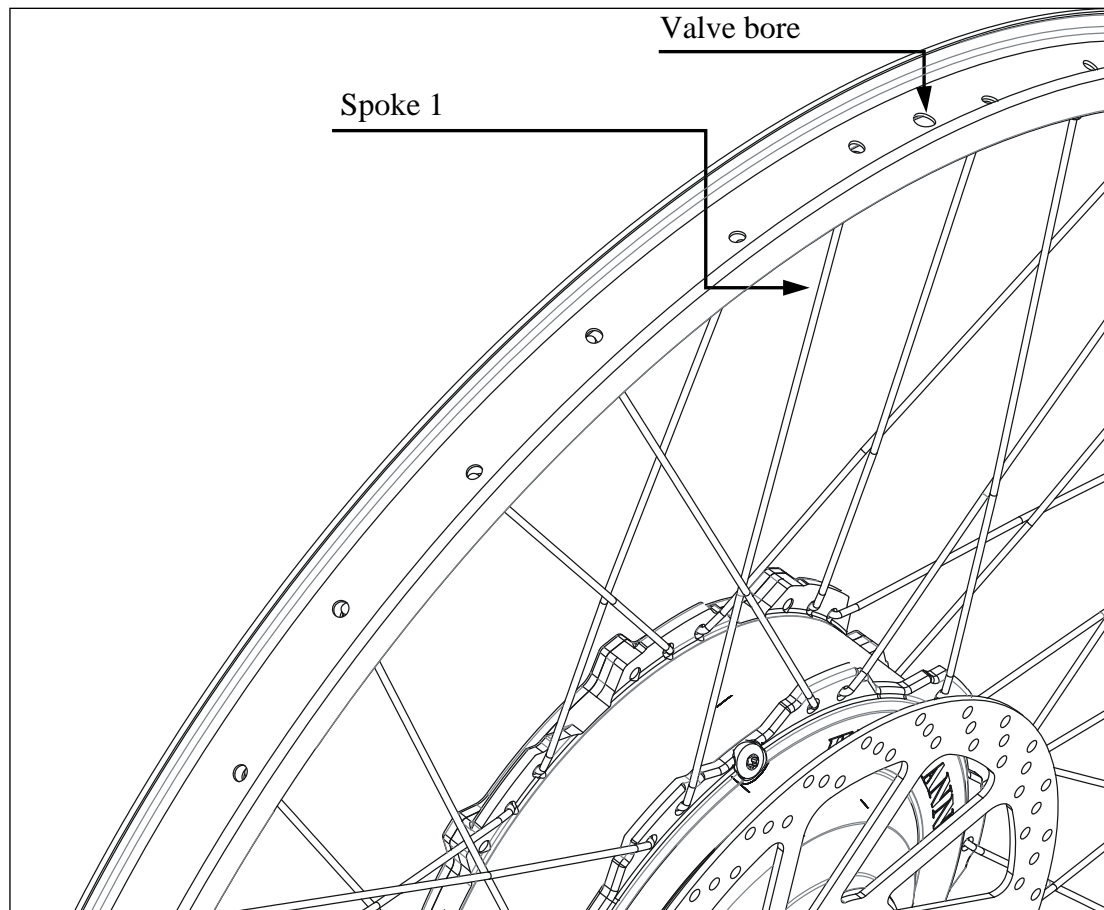

Fig. 4.1 Spoke pattern rear wheel, rim 26" or rim 28", 1× crossed
- Spoke pattern analogous to that of the rear wheel 26" or 28" (cf. fig.4.1).